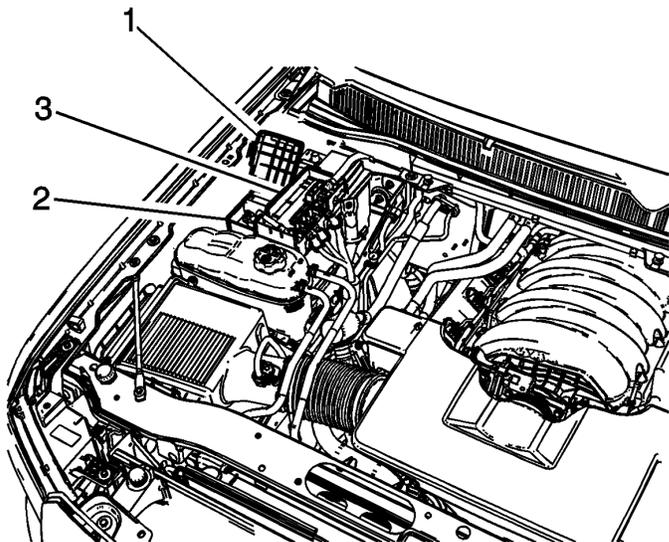

Fig. 3 Battery fuse block removal
3. Open battery positive cable clamp cover (1) and loosen battery positive cable clamp fastener (2), **Fig. 3**.
4. Remove battery fuse block (3) and set aside, **Fig. 3**.
3. Install battery fuse block (3) to battery positive post and **torque** fastener (2) to 44 inch lbs., **Fig. 3**.
4. Close battery positive cable cover (1), **Fig. 3**.